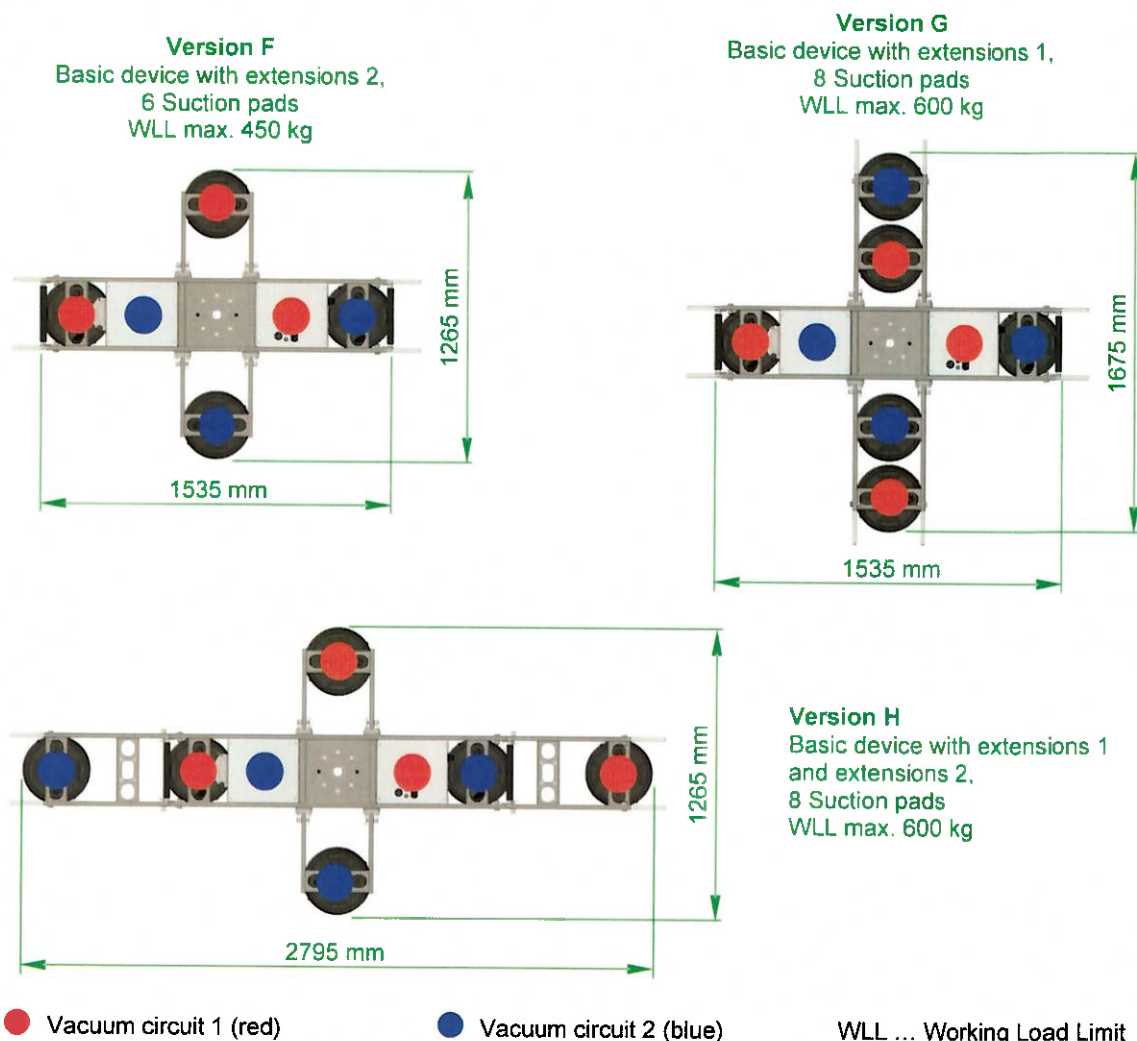

Fig. 3: Possible configuration of the OKTOPUS® and arrangement of the suction pads
Through the mounting of extensions (s. Point 3.3) the OKTOPUS® GLASS-Jack GL-LN 600 can be adapted to the most diverse element dimensions. All possible options can be seen in fig. 3. In order to make the presentation clearer, the crane arm is not shown.
- Please contact the Wirth service team if an arrangement of the suction pads differing from figure 3 is required.
In order to realize the OKTOPUS® configuration version D and G (see fig. 3) it's necessary to mount a second suction pad onto each of the extensions 1. Therefor proceed as follows: